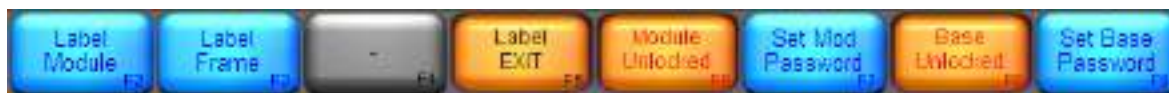

Figure 19-3: Label & Lock Menu Options
17. Tap LABEL & LOCK. The options shown in Figure 19-3 are displayed.